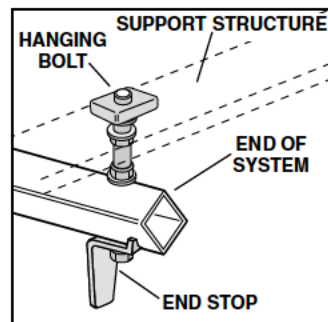

FIGURE 3
STEP 3- Rehang or complete hanging of track. Attach end stop with hanging bolt as shown in Figure 3.
STEP 2- Attach support structures to bench. Be sure horizontal rail spacing, center-to-center, matches one of the hole dimensions shown above. Securely affix structures to bench. See Figure 3.